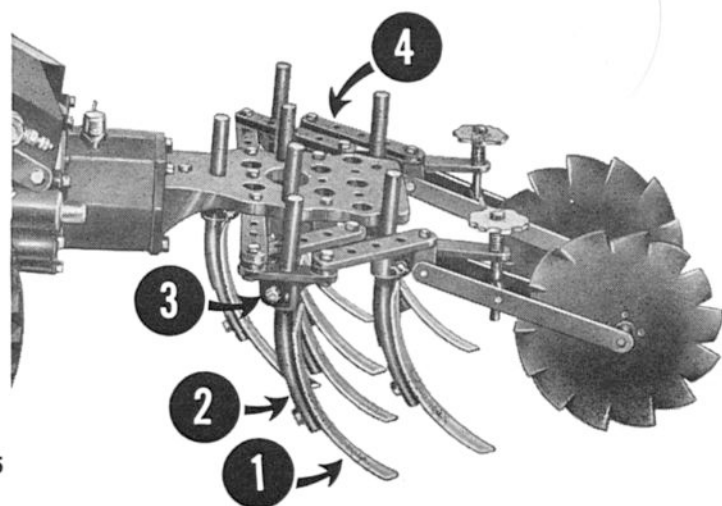

Figure 35
The Cultivator Tool Holder, shown in Figure 35, can be used to hold a variety of cultivating tools. The most common set-ups of cultivating tools in the Tool Holder are shown on the opposite page.
**ATTACHING TOOLS TO TOOL HOLDER.** The individual cultivating tool, 1 in Figure 35, is attached to a Shank, 2 in Figure 35, which in turn is attached to the Tool Holder by a Shank Holder, 3 in Figure 35.
**PARALLEL BARS.** The Parallel Bars, 4 in Figure 35, can be adjusted in several ways, depending on the task. Usually it is necessary to detach the Bars from the Depth Wheels to make these different set-ups.
**FIVE-STEEL SET-UP** is the standard arrangement; 1¼-inch wide Steels are used. Figure 35 shows a slight modification of this set-up, in which seven Steels are used. Steels are available in 1¼, 1¾, and 2¼ inch widths; standard length of the Steels is eight inches.